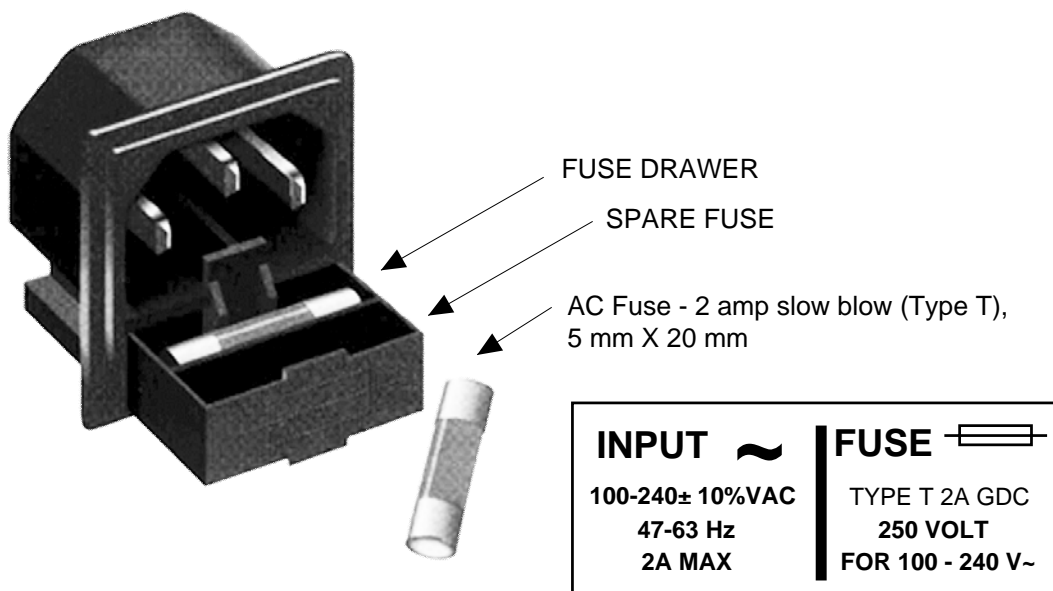

FIGURE 2.4 Fuse Location and Spare Fuse
7. **AC Fuse** - The fuse is a 5 mm X 20 mm, 2 amp slow blow (Type T) and is inserted in the far slot in the drawer below the AC input as shown in Figure 2.4. There is a spare fuse in the near slot. If a fuse continues to open, the power supply is most likely defective.